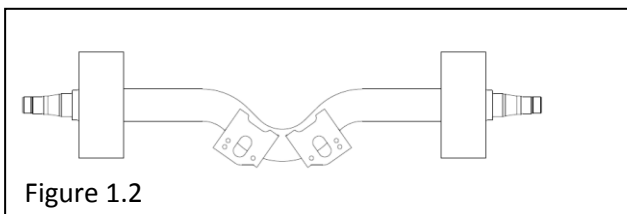

Figure 1.2
- Drop Axle -TAD model (Figure 1.2)